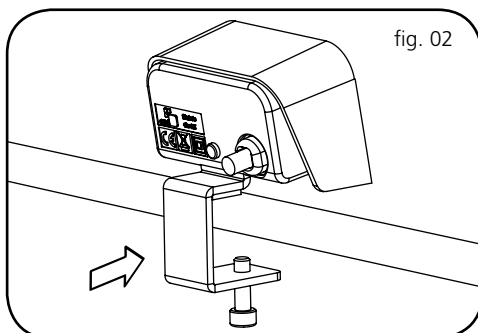

fig. 02
2. Place the unit in the desired position on the desk surface and ensure the C clamp is tight up against the edge of the surface (fig. 02).